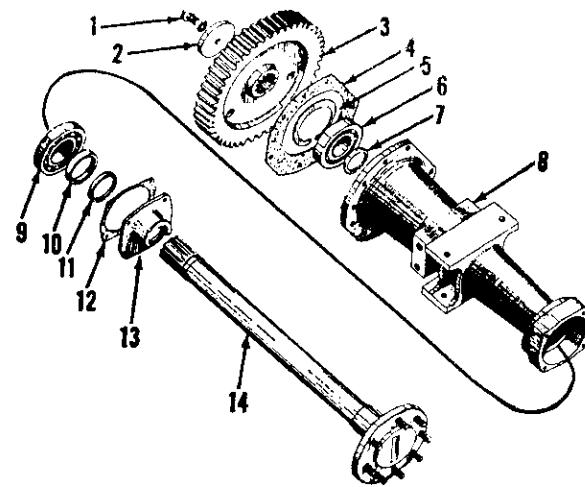

Fig. 121—Exploded view of axle, axle carrier and component parts used on Series B-275, B-414, 354, 364 and 384.
On Series B-275, B-414, 354, 364 and 384 remove cap screw (1—Fig. 121), unbolt axle carrier (8) and withdraw axle, axle carrier and fender assembly.